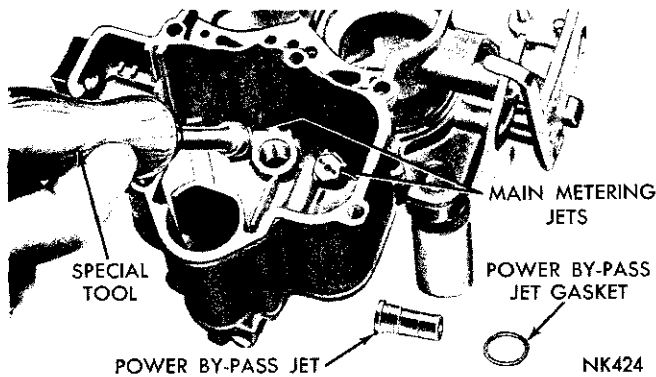

Fig. 8—Removing or Installing the Main Metering Jets
- (1) Place a new gasket on the throttle body, then install main body. Install two short screws to secure.
- (2) Install the main metering jets in the main body. Tighten securely, using Tool T-109-173. Refer to (Fig. 8).